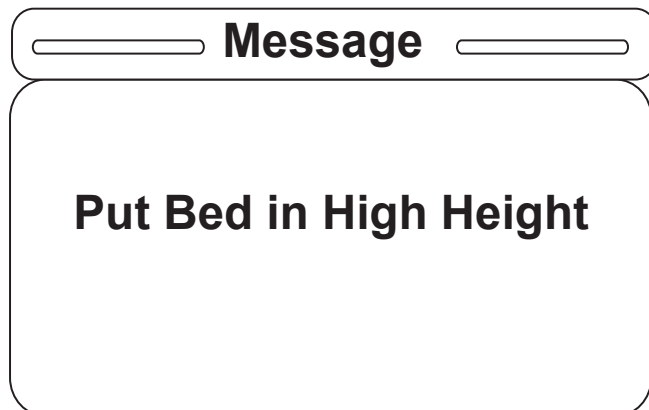

Figure S-29
27. The burn-in height routine will display different messages depending on if the user chooses to activate the Zoom/Batt. option. **If the Zoom or Battery Backup option is activated**, the message in Figure S-29 will be shown on the screen. If the Zoom/Battery Backup option was deactivated, then the message would display: “Put Bed in Low Height.” Drive the bed to its high or low height (depending on the message displayed) and hold the Bed Motion Lock. The screen will display the message “Hold to Set Height Limits.” Once the lock button is held for two seconds, the message “Release Button” will flash.